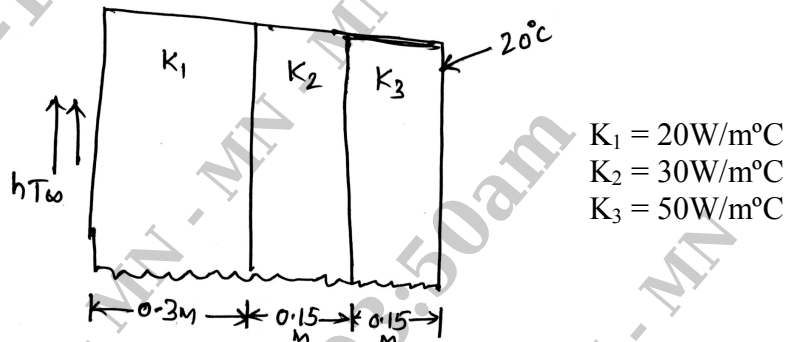

Fig Q7
- 7 A composite wall consists of three materials, as shown in Fig Q7. The outer temperature is $T_0 = 20^\circ\text{C}$, convective heat transfer takes place on the inner surface of the wall with $T_\infty = 800^\circ\text{C}$ and $h = 25 \text{ W/m}^2\text{C}$. Determine the temperature distribution in the wall.